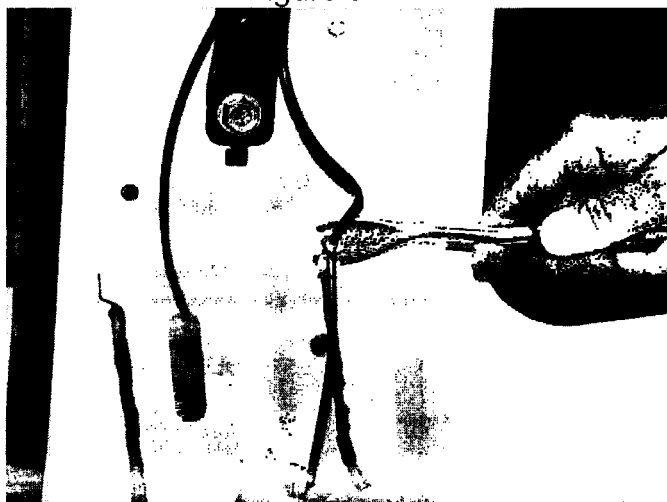

Figure 6
11. Remove upper door latch gray cable clip from door (see Figure 6).